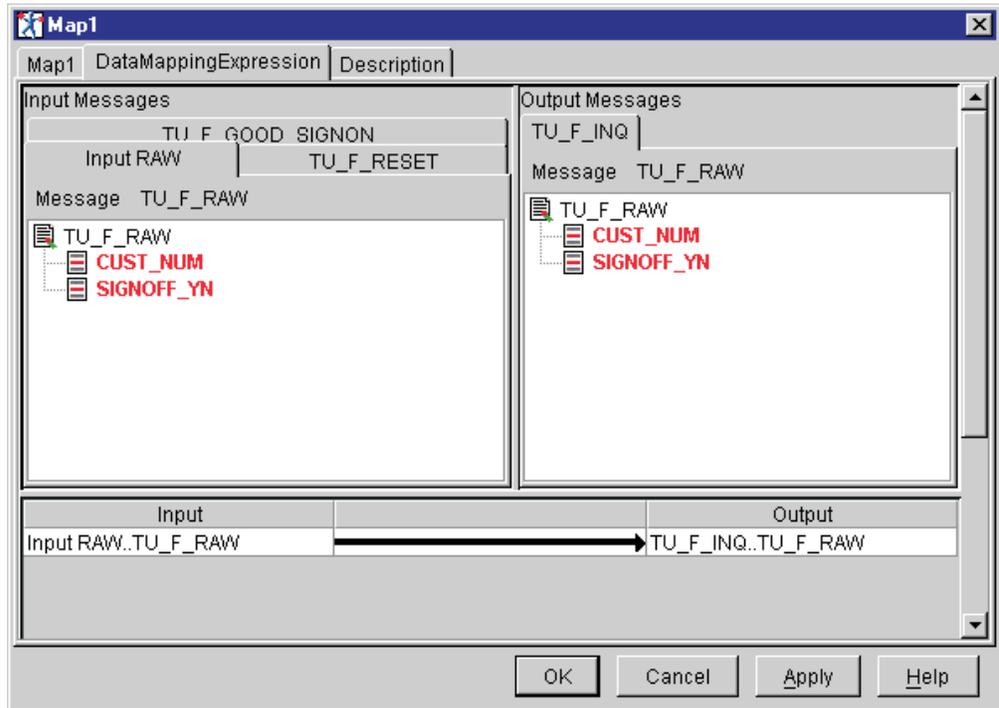

Figure 167. Mapping for Map1 node
- 1) Perform the mapping for the Map1 node as shown in Figure 167 on page 216.